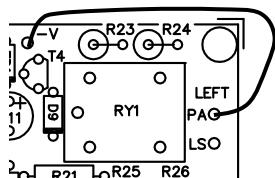

Fig. 1.0
- ☐ Connect the point PA of the left channel to the point -V (figure 1.0); the red LED 'ERROR' should now be lightening together with the yellow LED 'WAIT'.